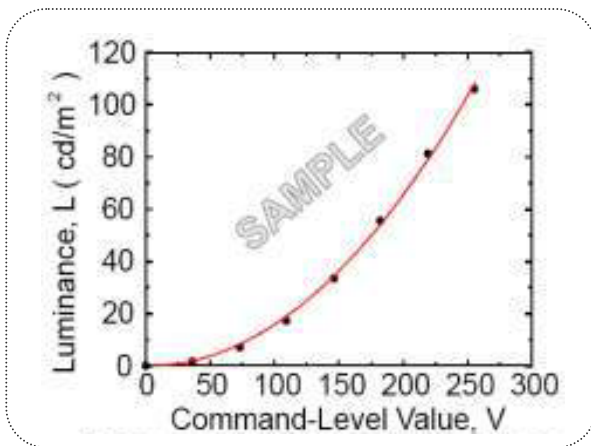
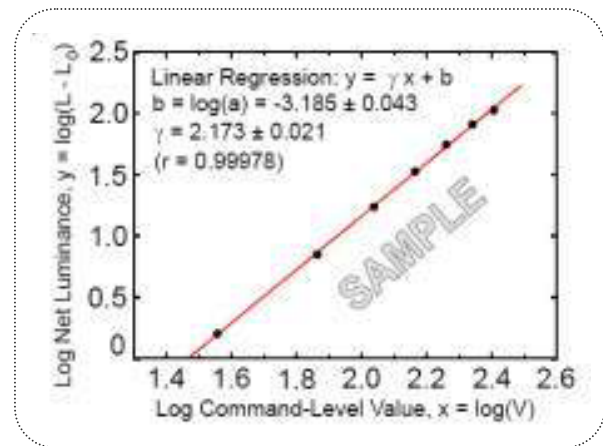

FIG. 7 Sample Luminance vs. gray scale (using a 256 bit gray scale)
FIG. 8 Sample Log-log plot of luminance vs. gray scale
8. Effective viewing angle is the angle at which the gamma shift of gray scale is lower than 0.3. For more information see FIG 7 and FIG 8.
The GAMMA we calculate from the log-log representation (FIG. 8)